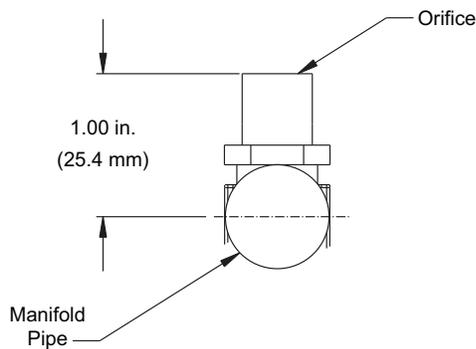

Fig. 37 — Orifice Projection
See Fig. 37 for maximum projection dimension for orifice face to manifold tube.
5. If factory orifice has been removed, check that each orifice is tight at its threads into the manifold pipe and that orifice projection does not exceed maximum value. See Fig. 37.
Ensure each replacement orifice is tight as its threads into the manifold pipe and the orifice projection does not exceed maximum value. See Fig. 37.